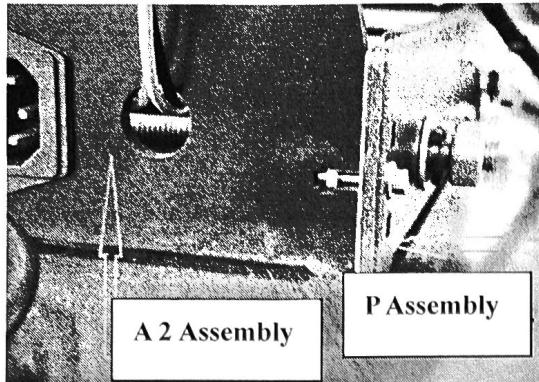
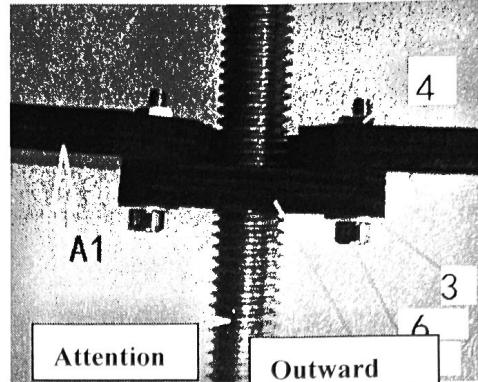

Figure 18
Figure 19
Align the holes of P assembly with the holes of previously installed main structure. Then fix the two and install P assembly to the main structure as shown in figure 18. Then follow figure 19 to install the bottom of P assembly to the A1 assembly. Next connect motor to the port 12 of motherboard with short cable ⑯.